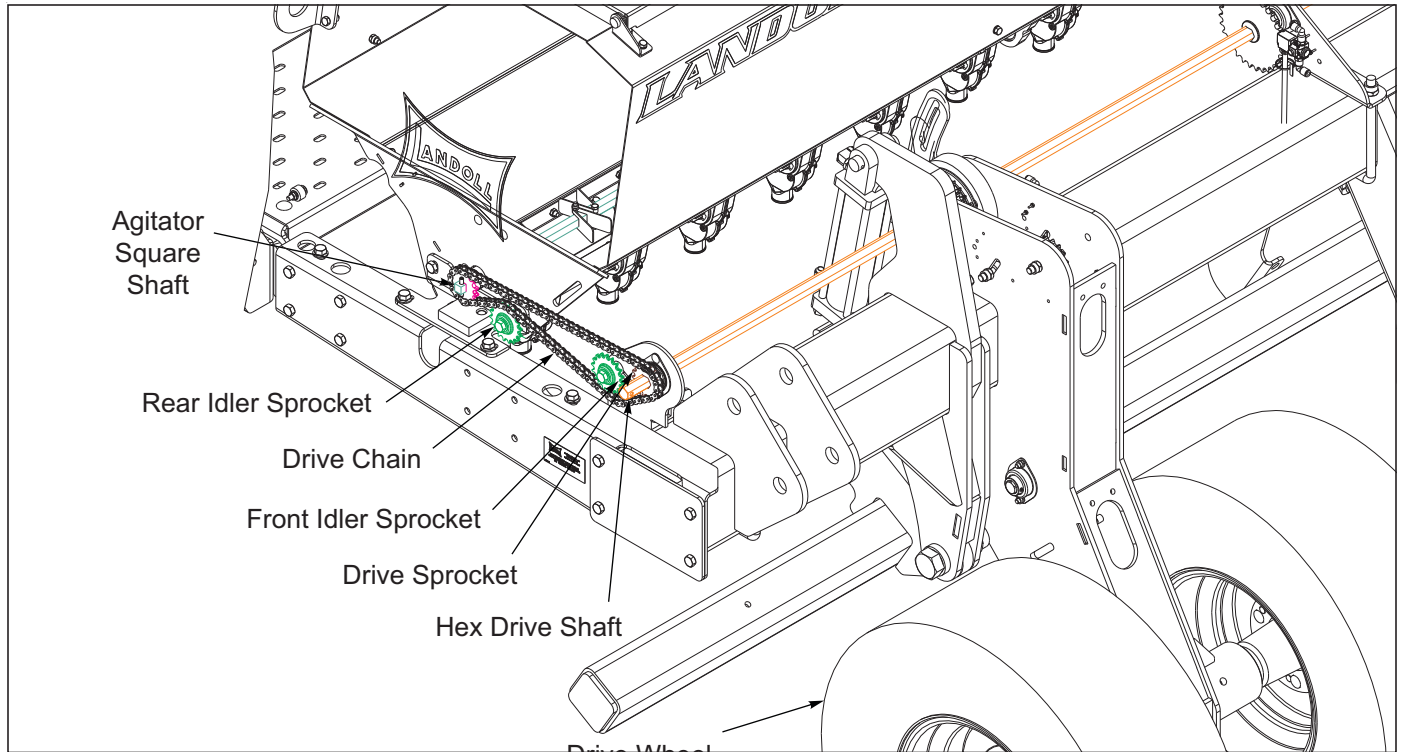

Figure 3-10: Agitator Drive Chain Assembly
14. Install an idler sprocket, 17/32 spacer, (3) flat washers, 1/2 x 3 screw, and locknut in the front seed box bracket hole.
16. Route the drive chain around the agitator shaft and to the front hex drive shaft as shown See Figure 3-10. Adjust the chain tension with the front idler sprocket. Adjust the drive and idler sprockets as necessary to make sure the chain